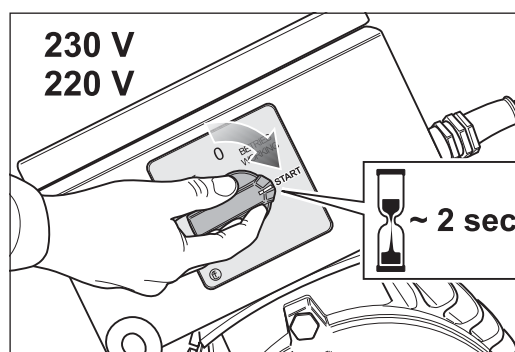

Fig. 19 To switch on the machine turn the switch button at the motor to position -START- and hold the switch button for around 2 seconds in this position.
- 2 To switch on the machine turn the switch button at the motor to position -START- and hold the switch button for around 2 seconds in this position (Fig. 19).